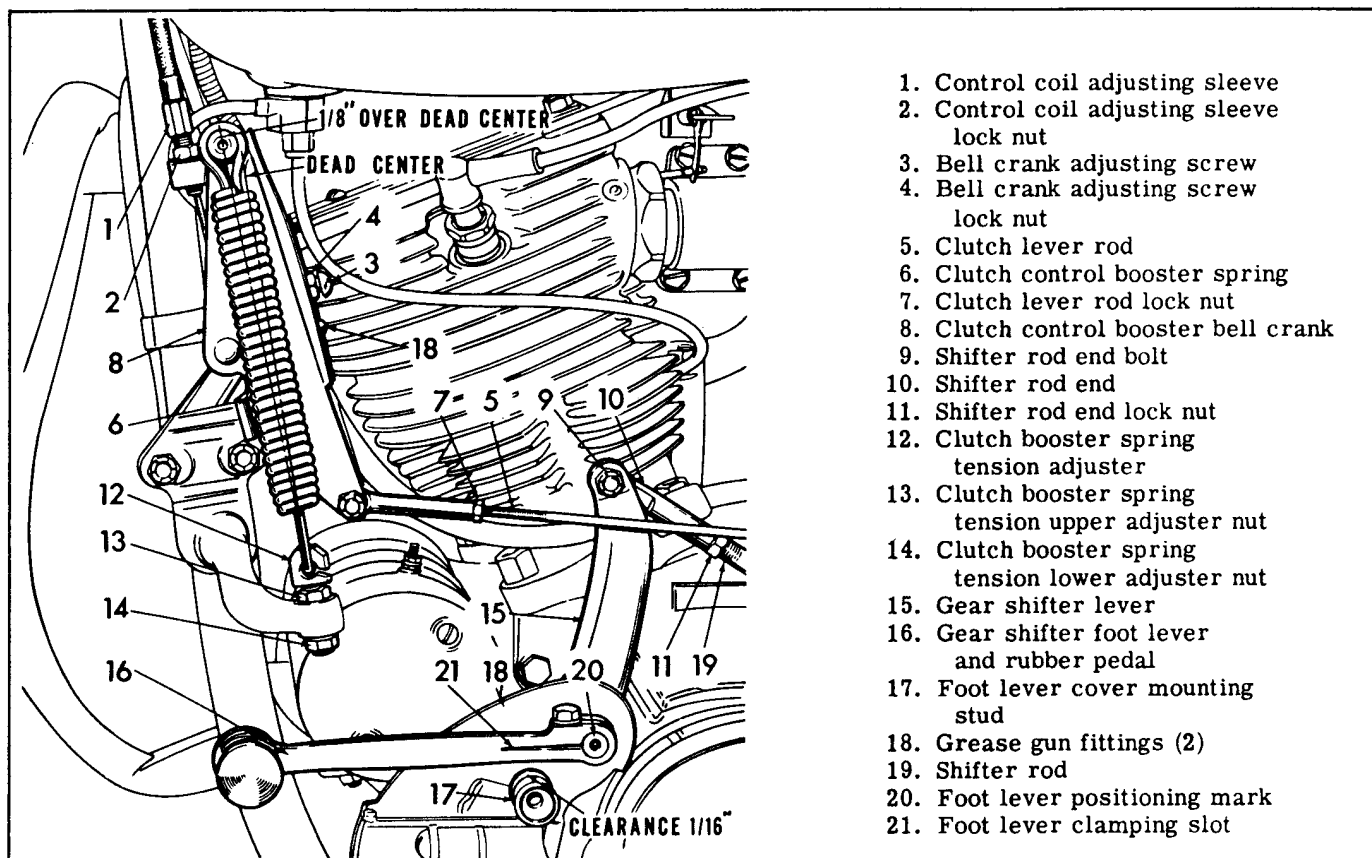

Figure 4B-2. Adjusting Hand Clutch Booster
If the clutch slips after adjusting clutch controls, increase spring tension on the three clutch spring guide stud nuts (6, Fig. 4B-1). Tighten all three nuts one-half turn at a time until clutch holds. Test after each half turn by cranking the engine. Usually a clutch that holds without noticeable slipping when cranking the engine will hold under normal road conditions. Do not increase spring tension any more than is necessary to make clutch hold.
A new clutch is assembled so the distance from inner edge of spring collar (2, Fig. 4B-4) to the surface of the outer disc (9) is exactly $31/32$ in. If springs are compressed so this distance is $7/8$ in. or less, the clutch probably cannot be fully disengaged.